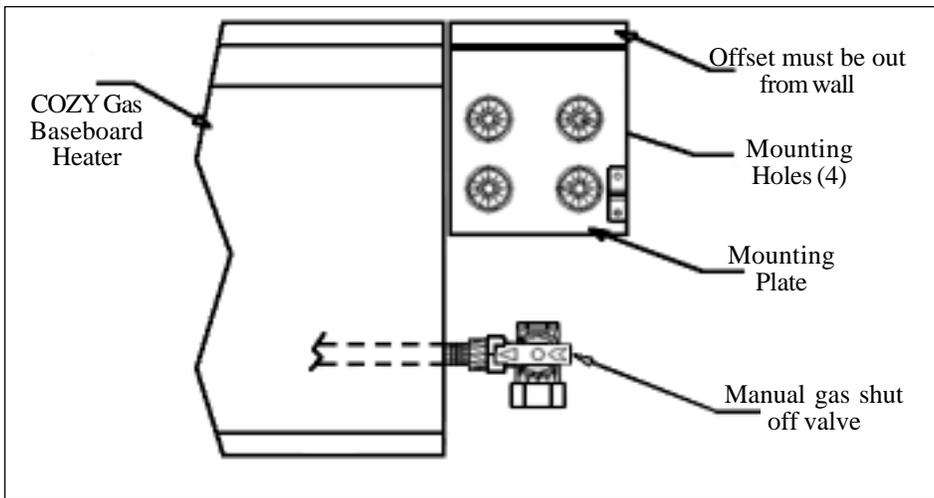

FIGURE 1
- STEP 2.** Check that the air intake pipe extends 1-1/2" past the outside wall and the vent exhaust tube extends 2-1/2" past outside wall. See Figure 1.
- STEP 1.** With the offset up and out from the wall, place the mounting bracket flush to the right side of the heater cabinet. Align the top of the mounting plate with the top of heater cabinet. Mark the location of the mounting holes. See Figure 1.
- STEP 1.** Place the mounting plate against the wall and flush with the bottom of the gas baseboard heater. The mounting plate must cover the manual gas shut off valve. See Figure 1. Mark the location of the mounting holes.
NOTE: This kit has been designed and certified for use with a Cozy gas baseboard heater only. Use only factory supplied kit and components. See Figure 1 for parts list of Vent Weather Seal Kit.
- STEP 1.** Change the location for the vent by following Figure 1 in the installation and operating instructions provided with the Cozy gas baseboard heater.
- STEP 2.** Drill a three (3) inch diameter hole through the wall of the chosen location.